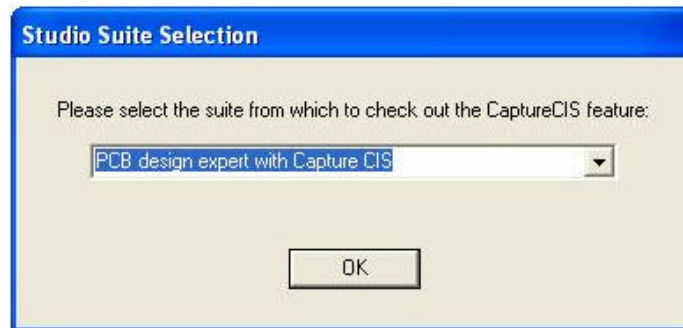

Figure 1 - Studio Suite Selection
- b) When prompted with Studio Suite Selection, choose PCB design expert with Capture CIS (see Figure 1) from the drop down menu.